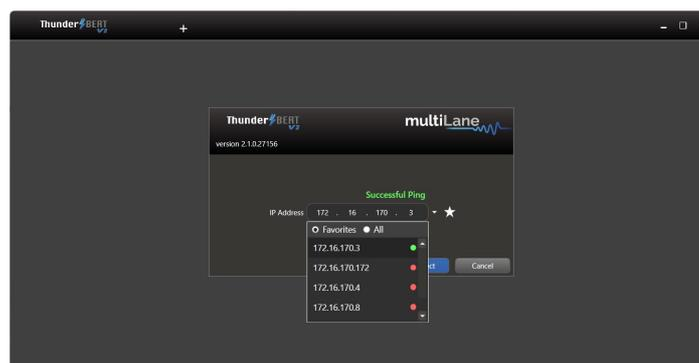

Figure 3: IP addresses Favorites List
- IP addresses can be added to Favorites by clicking on the star next to the arrow. These IP addresses will appear in the drop-down list next to the type box in the Favorites section (Figure 3).